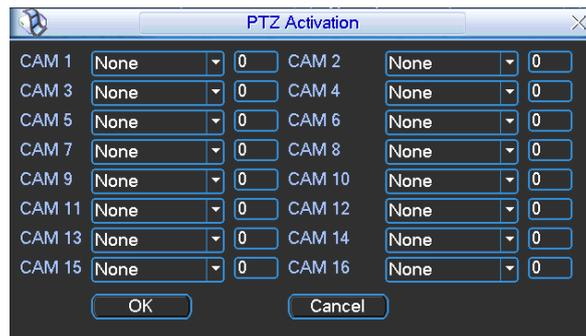
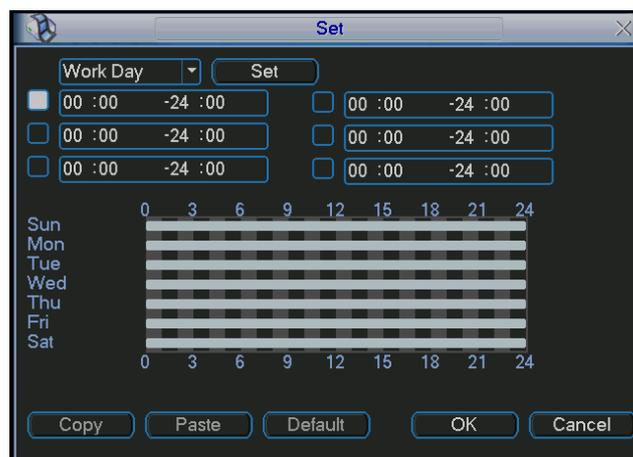

Figure 4-56
Figure 4-57
- ✧ In Figure 4-56, click “select” button, you can see an interface is shown as in Figure 4-57. Here you can set the activation operation such as preset tour, pattern and enable.